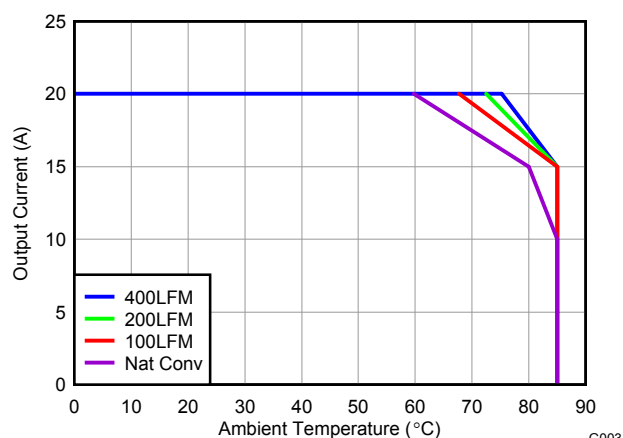

Figure 3. Safe Operating Area – PCB Vertical Mount(1)
The SOA curves in the CSD86330Q3D data sheet provides guidance on the temperature boundaries within an operating system by incorporating the thermal resistance and system power loss. Figure 3 to Figure 5 outline the temperature and airflow conditions required for a given load current. The area under the curve dictates the safe operating area. All the curves are based on measurements made on a PCB design with dimensions of 4" (W) × 3.5" (L) × 0.062" (T) and 6 copper layers of 1 oz. copper thickness.